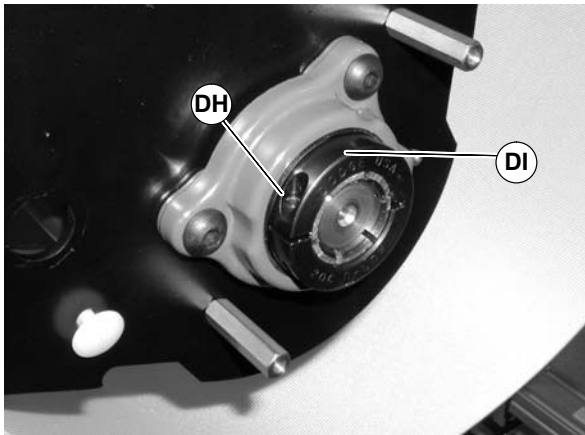

Figure 100
9. Loosen clamp screw (DL of Figure 100) and remove bearing collar (DI).